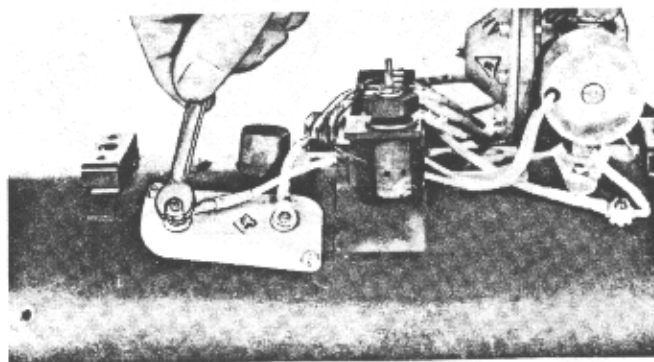

Figure 34
1. Remove shut-off solenoid lead No. 9 from overhear switch terminal (Figure 34).